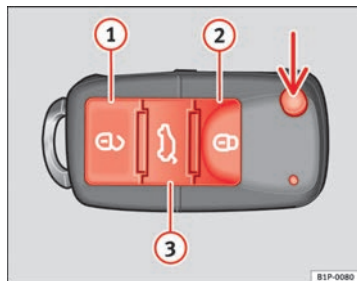

Fig. 64 Assignment of buttons on the remote control key
Using the button  \Rightarrow fig. 64 (arrow) on the control, the key blade is released.
Unlocking the vehicle  \Rightarrow fig. 64 ①.
Locking the vehicle  \Rightarrow fig. 64 ②.
Unlocking the tailgate. Press button  \Rightarrow fig. 64 ③ until all the turn signals on the vehicle flash briefly. When the unlocking button  ③ is pressed, you have 2 minutes to open the door. Once this time has passed, it will lock again.
Also, the battery indicator on the key \Rightarrow fig. 64, will flash.
When the button  \Rightarrow fig. 64 ①, is pressed once, the driver door is unlocked, all others remain locked.
Press the button  \Rightarrow fig. 64 ① twice to unlock all doors. ▶
- Press the  ⇒ fig. 64 button on the remote control.